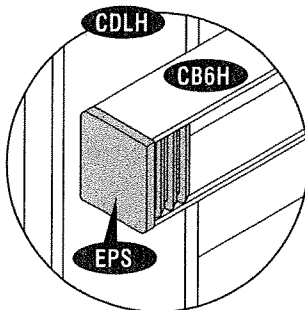

Fig.1
21. Fix the (EPS) at the end of center band (CB6H). See fig.1. Fix the (CBC) to the center band joint position to avoid injury. See fig.2.